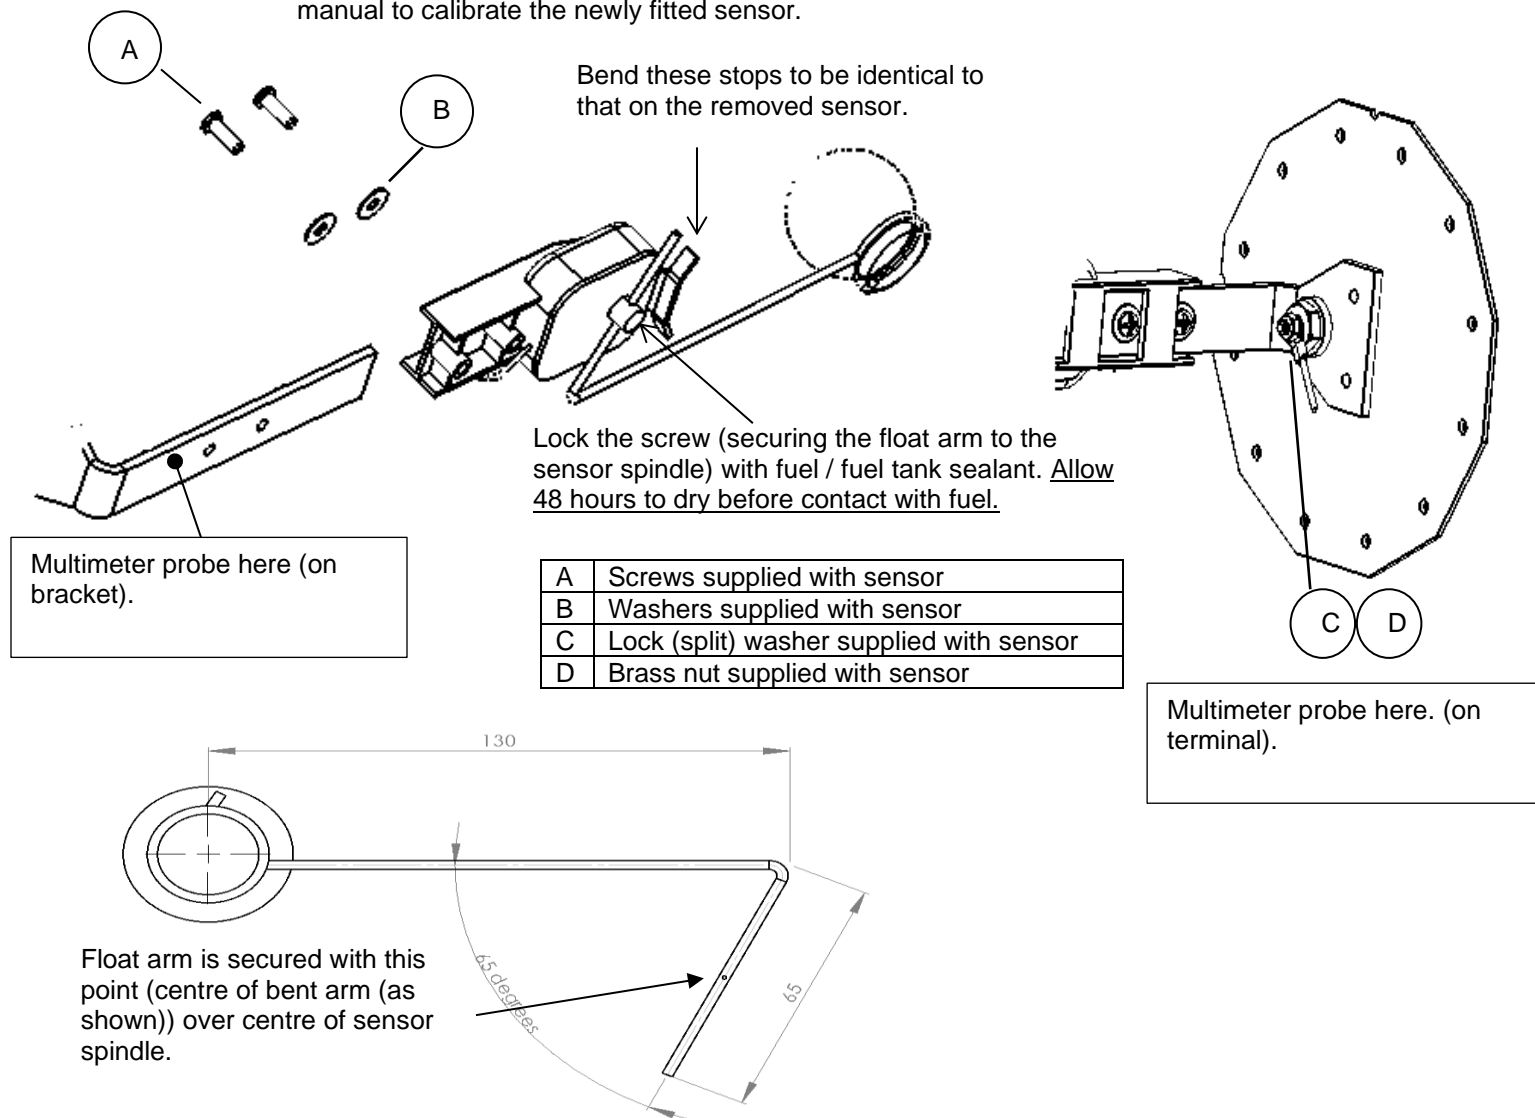

Figure 60: Fuel level sender assembly sensor replacement.
- Observe correct washer placement (refer to Figure 60).
- The sensor is fitted to the bracket with the spindle pointing away (in opposite direction) from the 90-degree bend / plate / part of the bracket attached to the hexagonal tank cover / sender assembly plate, i.e. spindle will face to rear when level sender assembly is installed in fuel tank. See Figure 60.
- (a) The float arm must be fitted to the new sensor with the same point (centre of bent part of arm) on the arm (as was over the centre of the spindle of the removed sensor) over the centre of the sensor spindle (refer to Figure 60). Use the marks made (during disassembly) on the float arm to assist in positioning the float arm before securing it to the sensor spindle.
- (b) Bend the float arm stops (refer to Figure 60) on the replacement sensor to be identical to that on the sensor which was removed.